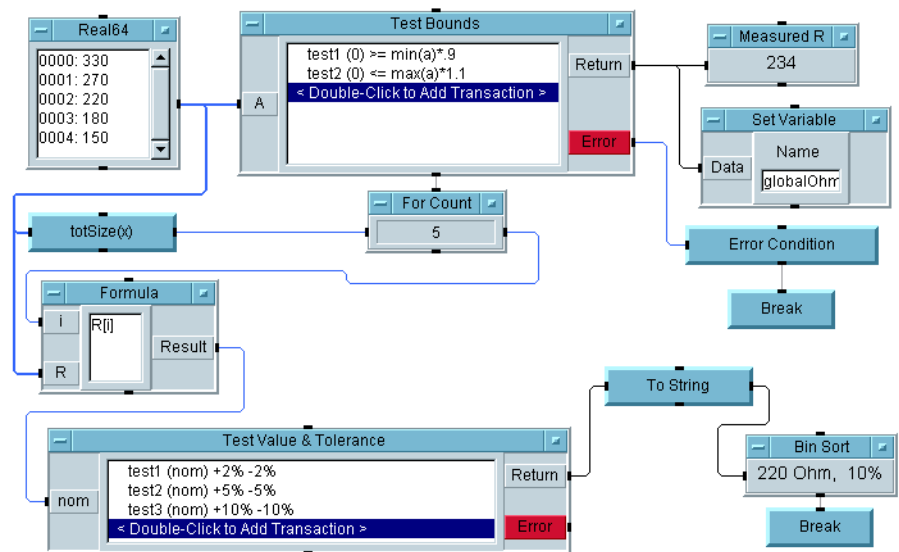
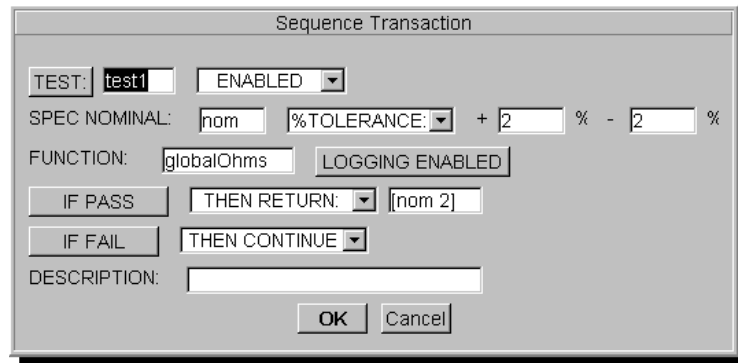

**Figure 14-14. Improved Bin Sort Example**
Figure 14-17. `globalOhms` Transaction
Although this approach is simple, it is not very efficient. You would need to create quite a large number of sequence transactions to test several resistance values, with three tolerances in each case. Figure 14-14 shows an improved version of the "bin sort" example.
Since the UserFunction `simResist` is only called once, you can replace it with a call to a different UserFunction. The example (`manual46.vee`, Figure 14-14) contains a second UserFunction, called `measResist`, which uses a Panel Driver to call an HP 3478A Digital Voltmeter configured for resistance measurements. If you have an HP 3478A meter, connect it via GPIB, change the `FORMULA` field in `test1` to the expression `measResist()`, and run the program.
- Regardless of whether simulated or measured resistance values are taken, the Test Bounds return value is displayed and is set as a global variable (`globalOhms`). For example, the three transactions in the Sequencer labeled Test Value & Tolerance (Figure 14-14) each call this global variable using the expression `globalOhms`. Figure 14-17 shows the first transaction expanded.